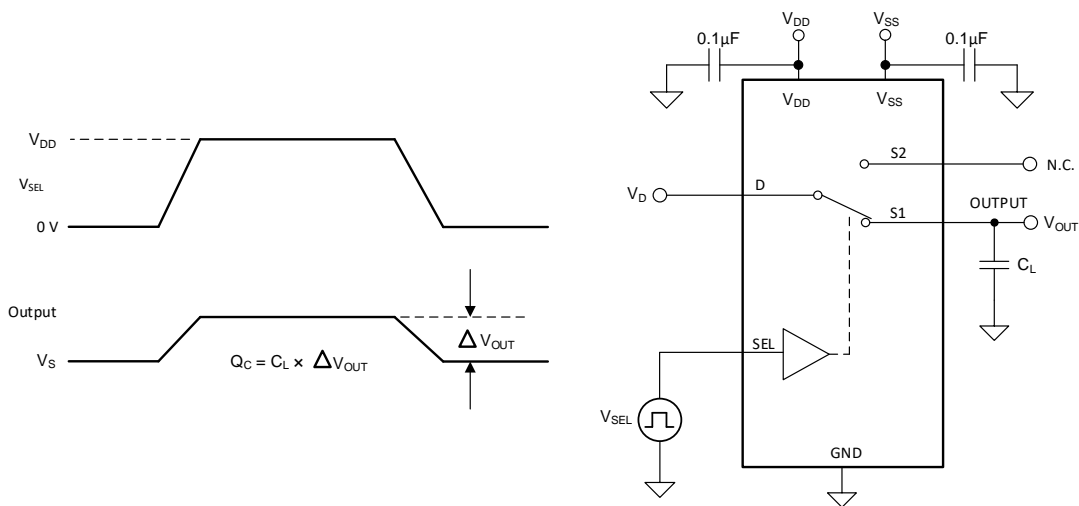

图 12. Charge-Injection Measurement Setup
The TMUX1247 has a transmission-gate topology. Any mismatch in capacitance between the NMOS and PMOS transistors results in a charge injected into the drain or source during the falling or rising edge of the gate signal. The amount of charge injected into the source or drain of the device is known as charge injection, and is denoted by the symbol  $Q_C$ . Figure 12 shows the setup used to measure charge injection from Drain (D) to Source (Sx).